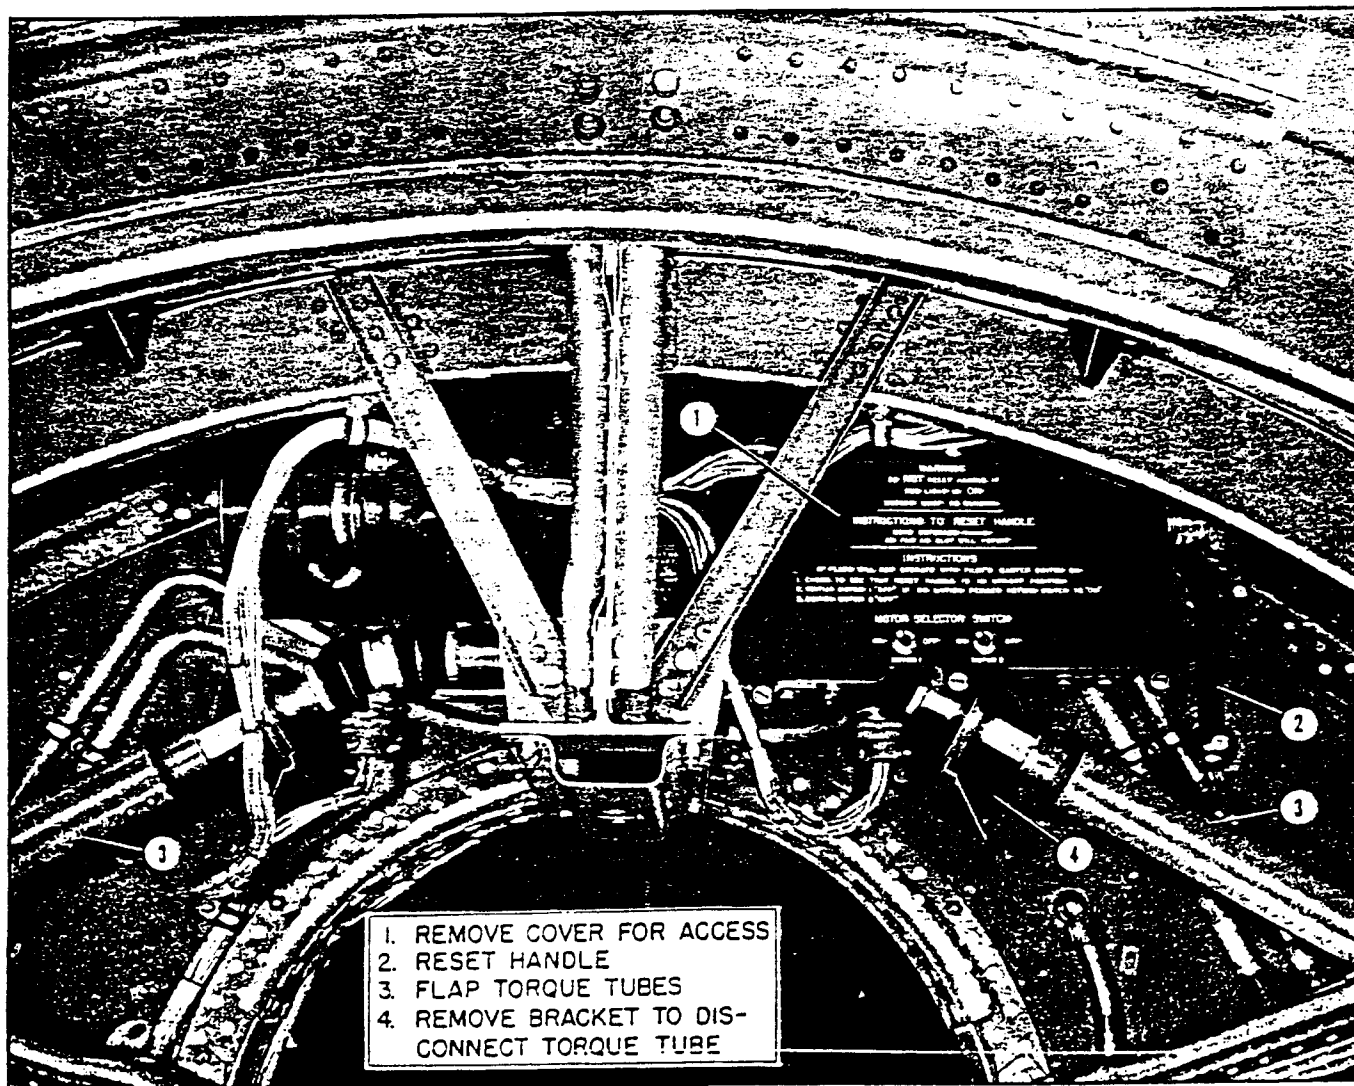

Figure 23. Landing Flap Power Unit Installed
(2) FLAP POWER UNIT. (See figure 23.)
(See figure 23.)
(d) INSTALLATION OF THE FLAP POWER UNIT. (See figure 23.)